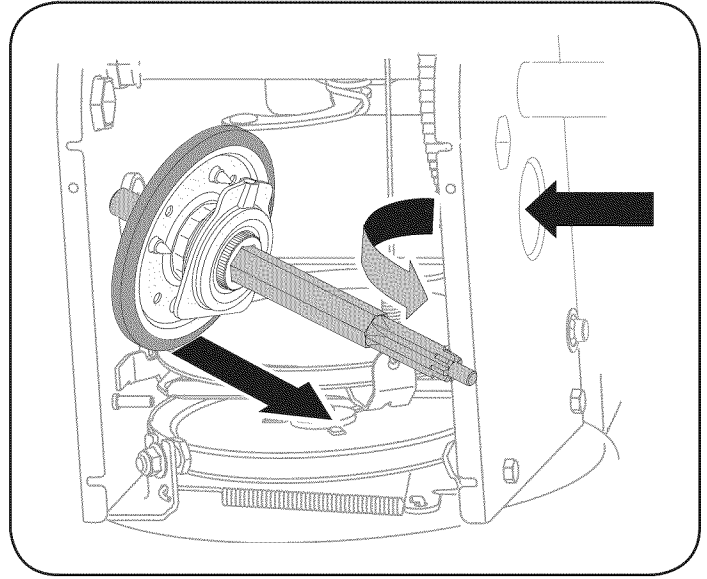

Figure 33
- Carefully position the hex shaft downward and to the left before carefully sliding the friction wheel assembly off the shaft. See Figure 33.